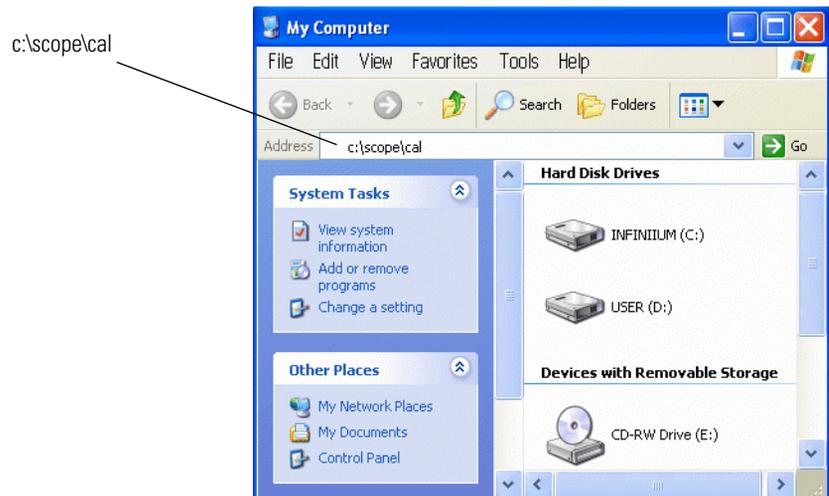

Figure 1-25. Locating the file `framecal.dat`
- e** Enter the path, `c:\scope\cal`, in the address line as shown in Figure 1-25 on page 33. Then, press **Enter** to locate the file, `framecal.dat`.
- d** Copy this file and paste the file into the folder, c:\scope\cal. Locate the folder by entering the path, c:\scope\cal, in My Computer as shown in Figure 1-25. Click **OK** to overwrite the current file.